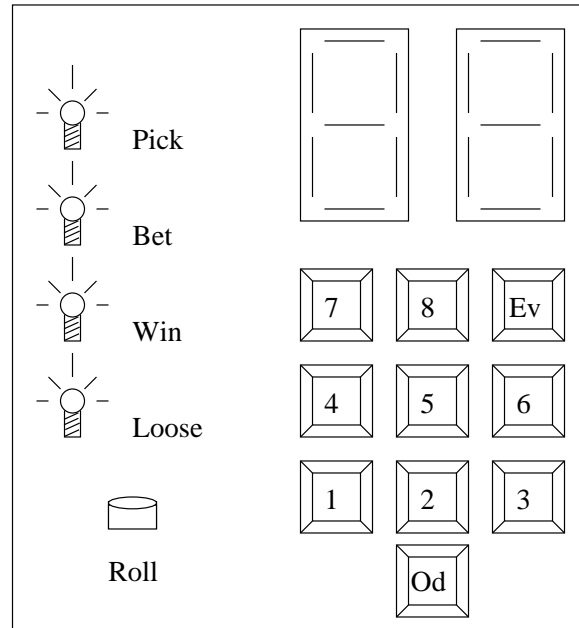

Figure 8.8: The layout of the roulette playing machine. The two 7 segment displays at the top are used for a variety of purposes.
17. **(36 pts.)** You are to construct a digital circuit that plays a game of roulette, allows betting and keeps track of total earnings. The roulette wheel has 8 slots, labeled 1...8. The player can play one of the numbers straight or play even or odd. The player starts with \$10. The layout of the machine is shown in Figure 8.8.